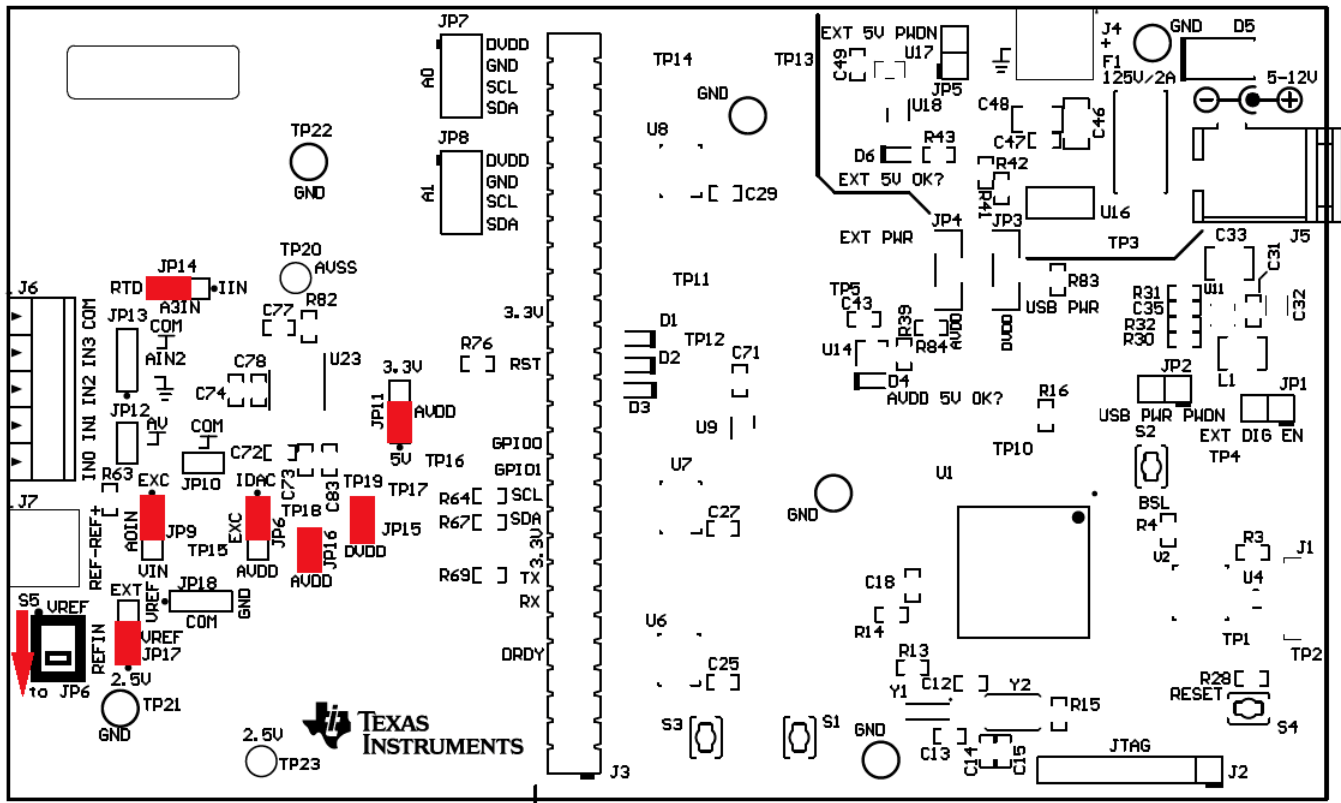

Figure 2. ADS1x2C04 EVM
The EVM should come configured with the settings listed in Table 2 and illustrated in Figure 2.
3. Ensure all jumpers and switches are configured in the default configuration per Table 2 and Figure 2.